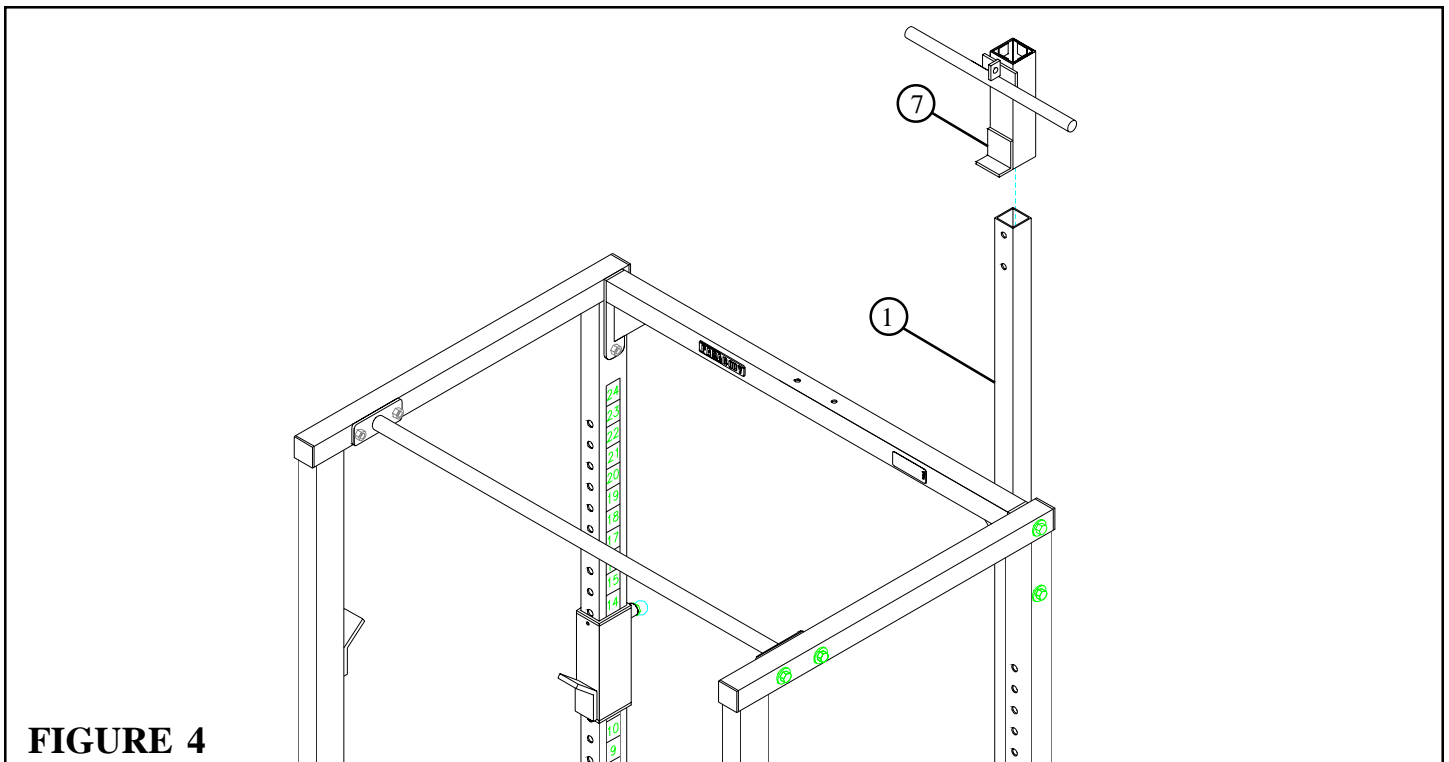

**FIGURE 3**
- Apply eight 1" SQ. GLIDES (31) to the inside of the CARRIAGE (7) as shown in FIGURE 3.
- Attach one 1-1/4" SQ. RUBBER BUMPER (30) to the bottom of the CARRIAGE (7) as shown in FIGURE 3.